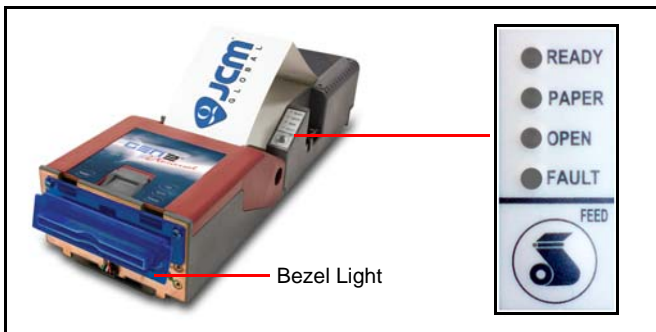

Figure 2 GEN2U Printer Keypad, LEDs and FEED Button
The GEN2U™ Printer features a Keypad with LED Status Indicators and a **FEED** Button (Figure 2). Printer Status indicators include a Front Bezel Light and the four (4) Keypad LEDs. Refer to Table 1 below for GEN2U Keypad LED Status Codes.
Most Printer Errors occur due to paper running out or user intervention. See Table 4 below for Error Descriptions and recommended solutions. Refer to Figure 2 and Table 1 (Page 3) for Error Indicators.
9. Press and hold the FEED button (refer to Figure 2) and apply power to the Printer. Continue to hold the FEED button until the Configuration Ticket starts to print.